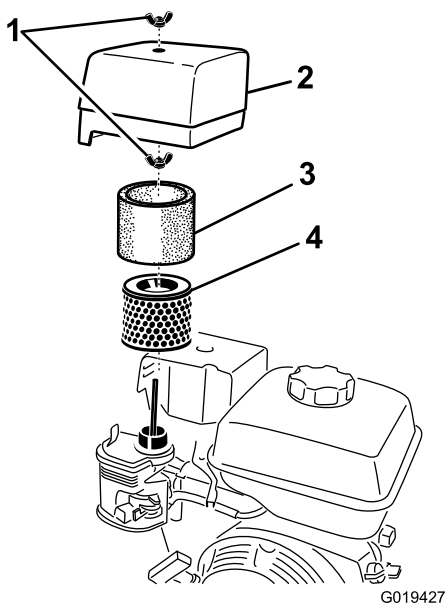

Figure 16
3. Remove the nut that secures the cover (Figure 16).
6. Remove the foam and paper elements from the base (Figure 16).
7. Remove the foam element from the paper element (Figure 16).